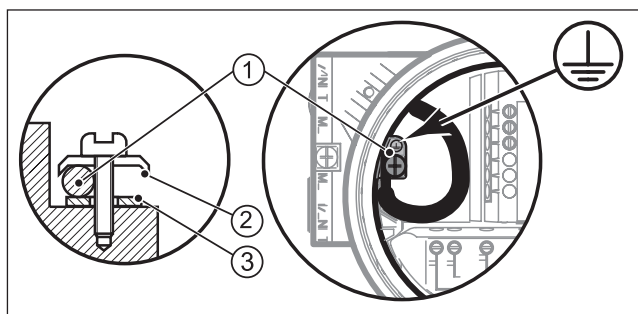

Fig. 2.6 Earth wire connections
- * If required, mount earth wire (1) between top (2) and bottom (3) ring of earth wire connection (see figure 2.6).